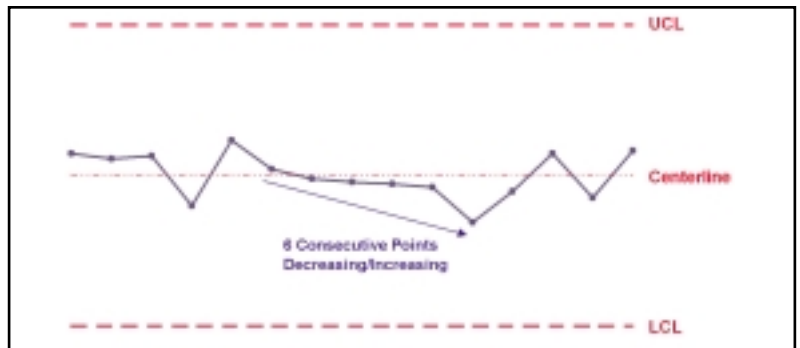

Figure 10—Consecutive points moving up or down.
- 3.) Trends (Figure 10)—seven points consistently increasing or decreasing, and